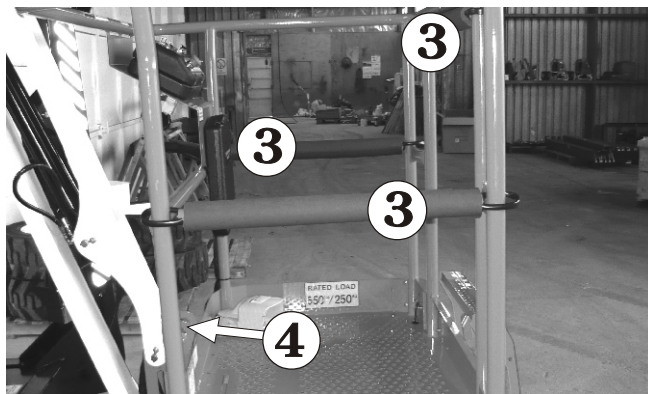

Figure 10.20
3. Enter the platform, close the gravity gate ❸, and attach the lanyard of your safety harness to one of the anchor points ❹ (see Figure 10.20).
4. Set the Emergency Stop switch **5** to (ON)